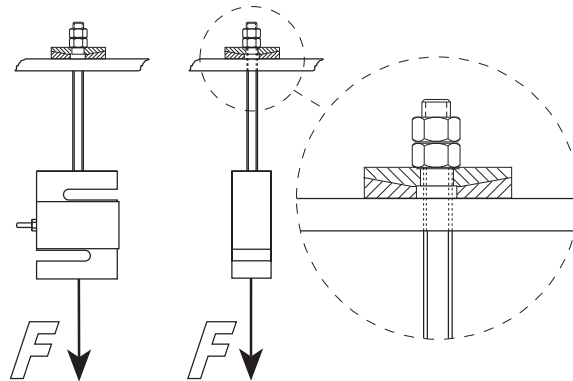

Figure 11-1. S-Beam Weigh Module
Figure 11-1 illustrates the correct way to apply load to an S-beam load cell.
- The ends of the suspension should be attached to the structure and vessel in such a manner that they are free to move. At a minimum, use a spherical washer set as illustrated in Figure 11-1.